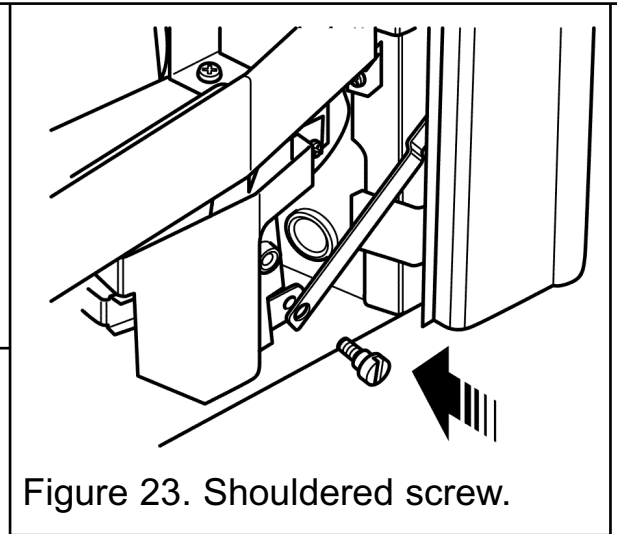

Figure 23. Shouldered screw.
3. Connect the control linkage to the control pivot plate using the shouldered screw and using a screwdriver (Not finger tight only) (See figure 23).